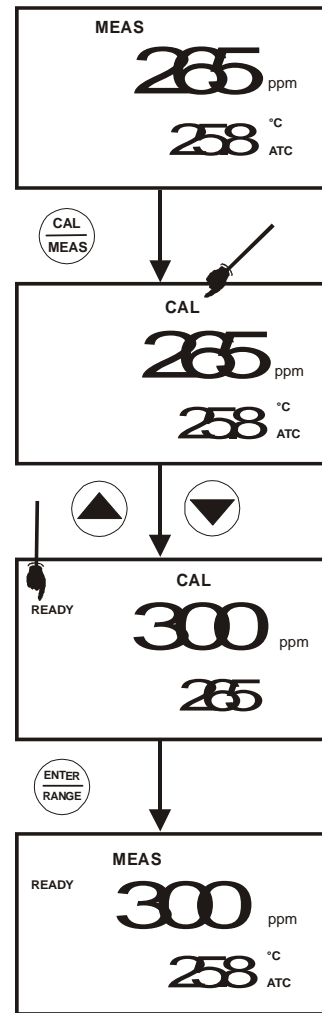

Figure 10: TDS calibration
6. Press ENTER to confirm the calibration value. The meter returns to the MEAS (measurement) mode. See Figure 10.